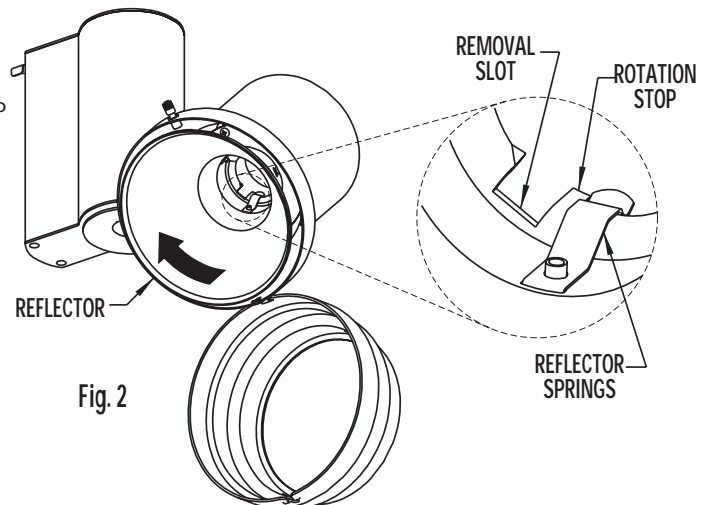

Fig. 2
3. Holding REFLECTOR by the LIP, push REFLECTOR into REFLECTOR CUP until REFLECTOR SPRINGS engage (See Fig. 2)
4. Rotate REFLECTOR clockwise until the REFLECTOR SPRINGS hit the ROTATION STOPS on the REFLECTOR CUP (See fig. 2).
To remove REFLECTOR, remove lamp, rotate REFLECTOR counter-clockwise until REFLECTOR SPRINGS snap off into REMOVAL SLOTS. Pull REFLECTOR out of REFLECTOR CUP (See fig. 2).